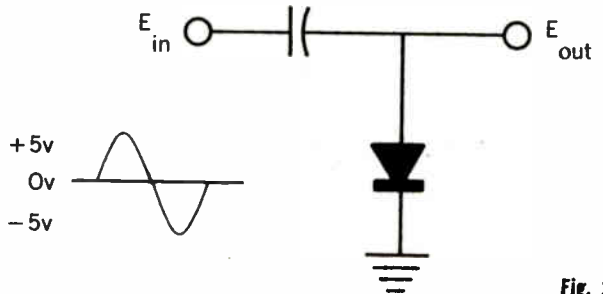

Fig. 2
- With the sine-wave voltage applied to Fig. 2, draw the